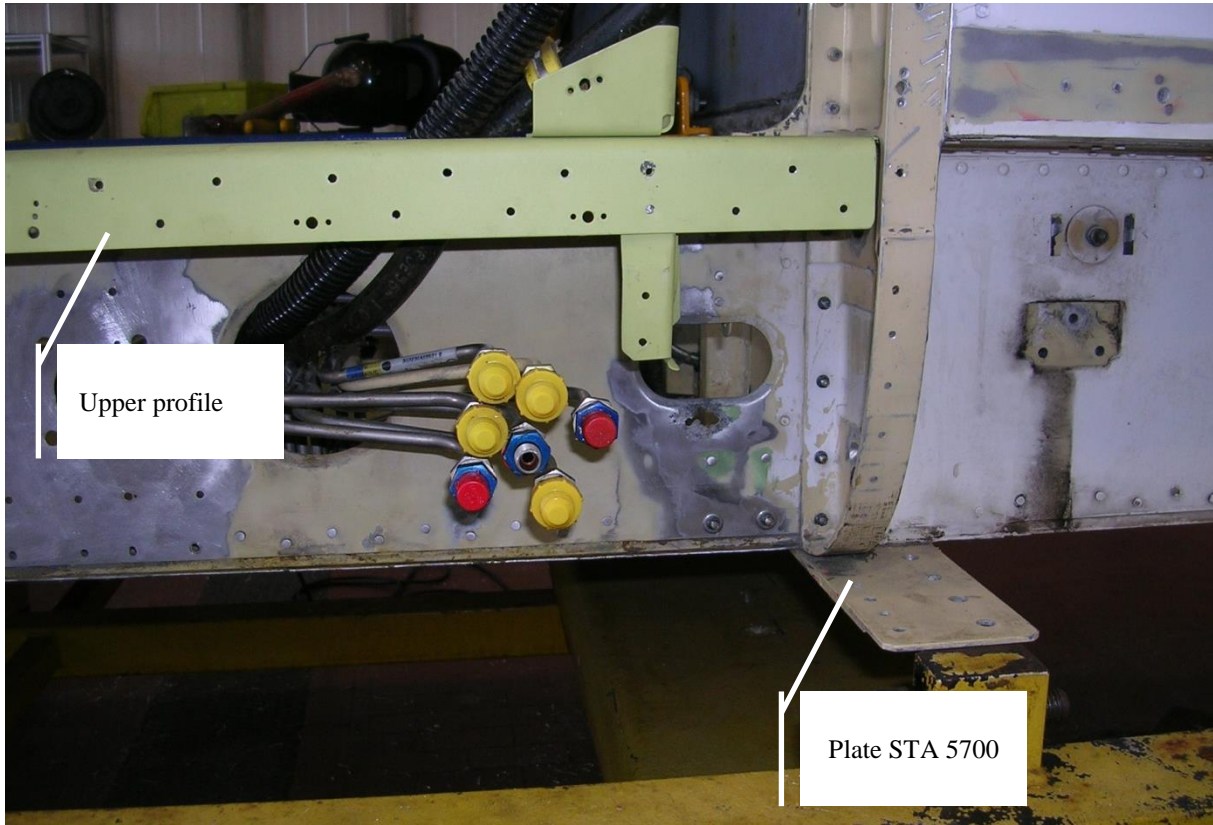

Figure 3
- 68.5. Install LH upper profile (Figure 3).